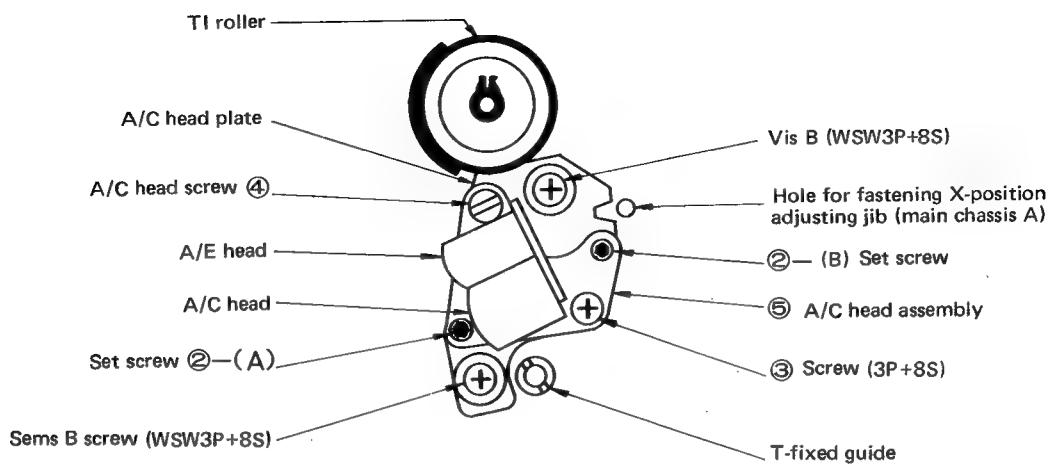
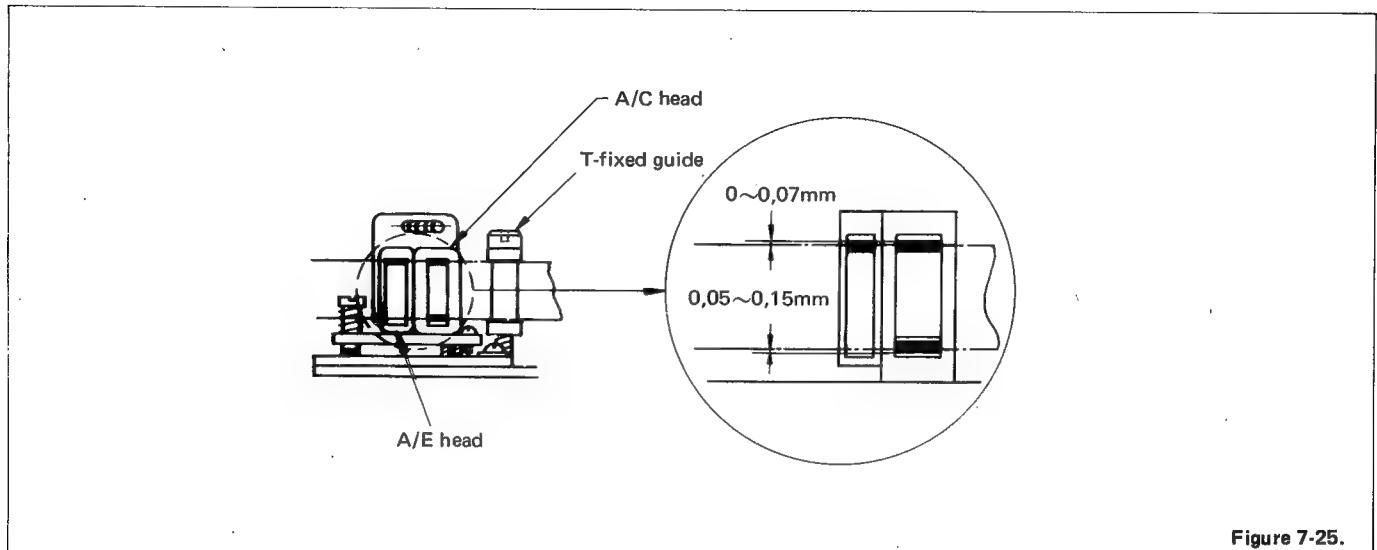

Figure 7-23.
Figure 7-25.
- 3) Check that the height and tilt of the A/C head are just as shown in Figure 7-25 in relation to the tape.
- If the tape does not travel properly, perform the following (see Figures 7-23 and 7-25).
- 4) If the above requirements are not met, make adjustment with screws (2)-A and (2)-B. Turn them little by little.
- 5) Check that the height of the A/C head is as shown in Figure 7-25 in relation to the tape.
- 7) Set the tracking control at its preset position. Loosen two sems B screws (WSW3P+8S) (see Figure 7-23)